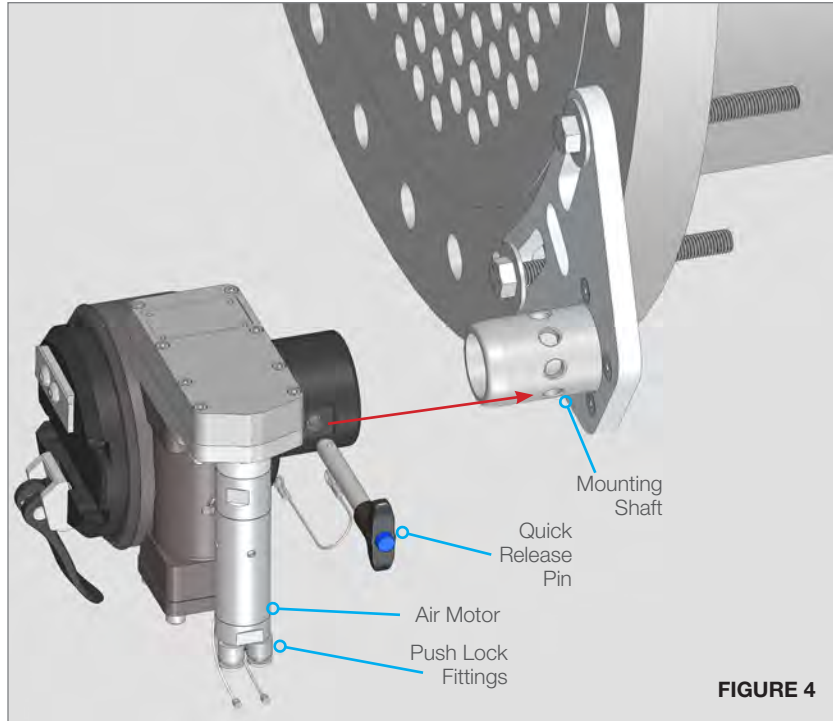

FIGURE 4
4. Pull the Quick Release Pin out of the Rotary Drive. Slip the Rotary Drive over the Mounting Shaft. **(Figure 4)**
5. Rotate the Rotary Drive so that the Air Motor is as far away from the tube face as possible. This allows more room on the Drive Rail for the Linear Drive and Guide Tube/Collet Assembly. Keep in mind the orientation of the Push Lock Fittings for the routing of the umbilical. **(Figure 4)**